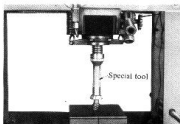

Fig. 10-8
1. Installation of the front and rear bearing inner races necessitates the use of the special tool bearing installer (09913 80111) as shown in the Fig. 10-8.